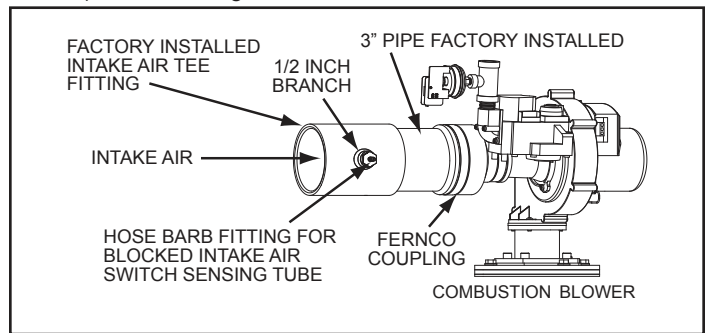

Figure 19. Intake Air Connection
15. If installing two- or four-inch intake air pipe, transition to three-inch pipe at the intake air connection on the water heater as shown in **Figure 19**. The field installed three-inch pipe between the intake air connection and the reducer coupling should be 18 inches (45 cm) or less in length.